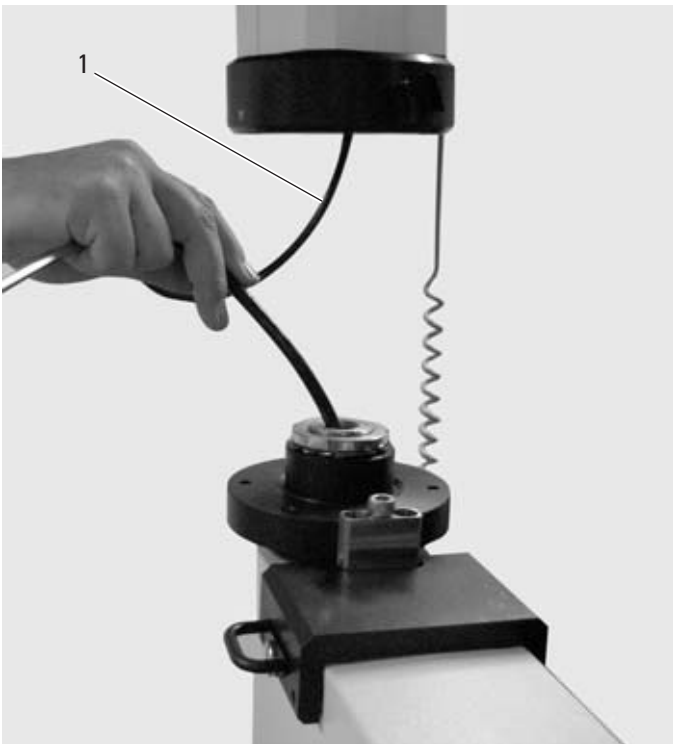

Fig. 2
⇒ Lift up the horizontal arm and thread the power cable (1) through the horizontal arm (Fig. 2).